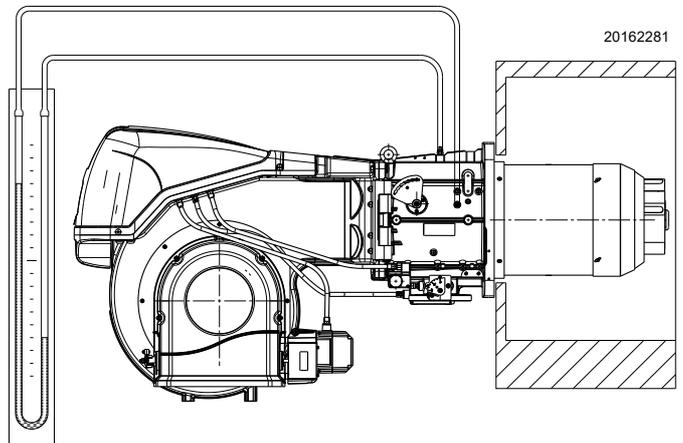

Fig. 27
- Fit a U-type pressure gauge or a differential pressure gauge (Fig. 27), with socket (+) on the gas pressure of the pipe coupling and (-) in the combustion chamber.